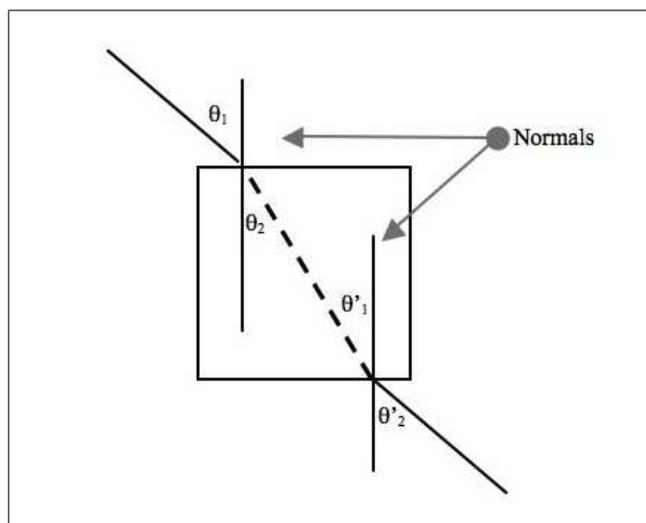

Figure 21.10: Refraction - Final
32. Draw a line connecting P_3 and P_4 to the edge of the square. Draw a line normal to the square through this intersection (refer to Fig. 21.10).
33. Draw a line inside the square to connect the normals (Fig. 21.10).
35. Consider the law of refraction and Fig. 21.10.